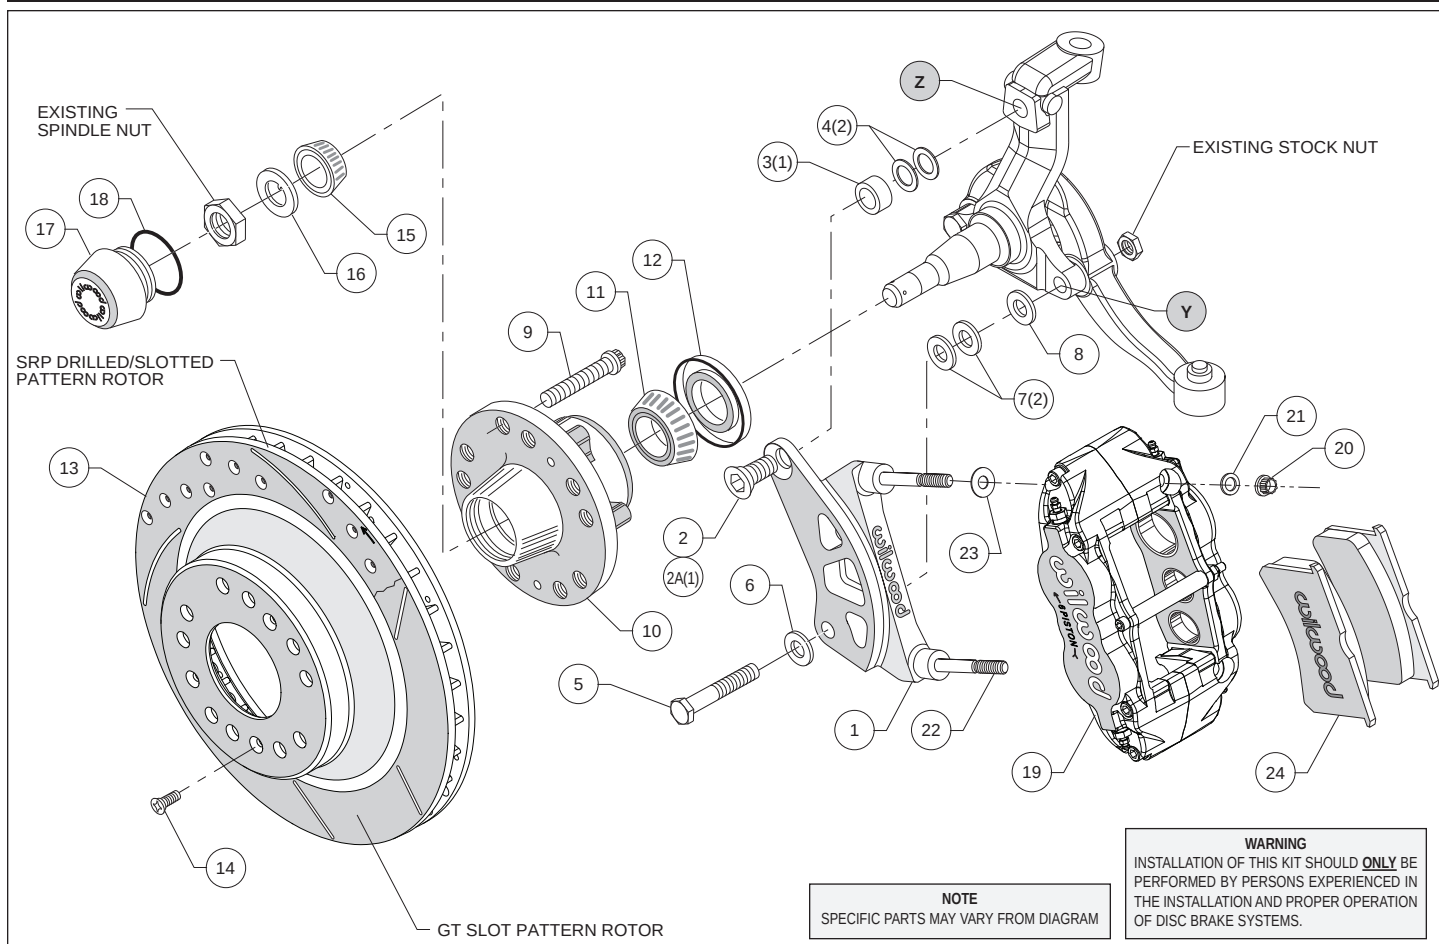
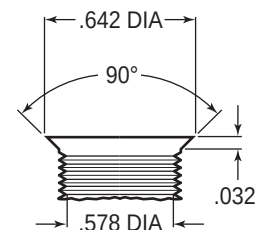

Figure 1. Typical Installation Configuration
Figure 3. Drill and Tap Detail
Assembly Instructions (numbers in parenthesis refer to the parts list on the preceding page, and Figure 1):
•**NOTE:** 1964-66 spindles may require the following modifications (reference figure 1 and 3): Top anchor pin hole (Z) must be drilled and tapped to the dimensions as outlined in Figure 3. Bottom rear steering arm bolt hole (Y) in the spindle and steering arm must be enlarged to .50" by drilling. A 1/2-20 backing nut (not supplied in kit) will need to be acquired to torque bracket / steering arm bolt (supplied in kit).
•**Disc Application:** The caliper mount bracket (1) should be installed first with clean, dry threads on the mounting bolts. Orient the bracket as shown in Figure 1, and install using bottom bolt (5), washer (6), and washer (7, Heidts spindle kit only). Install the upper bolt (2A), spacer (3) and washer (4, Heidts spindle kit only), finger tighten only. **NOTE:** The bracket must fit squarely against the mount bosses on the upright. Inspect for interference from casting irregularities, machining ridges, burrs, etc. If needed to align the bracket parallel to the spindle, add shim washer (8) between bracket and spindle as shown in Figure 1. Once the bracket alignment is correct, remove the mounting bolts one at a time and apply red *Loctite*® 271 to the threads, and torque bolt (2A) to 140 ft-lbs and bolt (5) to 77 ft-lb.
•**Drum Application:** The caliper mount bracket assembly (1) should be installed first with clean, dry threads on the mounting bolts. Orient bracket as shown in Figure 1, and install using the bottom bolt (5), washer (6), and washer (8). Install the upper bolt (2), finger tighten only. **NOTE:** The bracket must fit squarely against the mount bosses on the upright. Inspect for interference from casting irregularities, machining ridges, burrs, etc. Once the bracket alignment is correct, remove the mounting bolts one at a time and apply red *Loctite*® 271 to the threads, and torque bolt (2) to 140 ft-lbs and bolt (5) to 77 ft-lb.
•Install wheel studs (9) into the hub (10), Photo 1. Torque to 77 ft-lb. **NOTE:** There are two five lug patterns in the hub (5 x 4.50 and 5 x 4.75). Ensure the correct hub stud pattern is being used to fit the wheel application.
•Pack the large inner bearing cone (11) with high temperature disc brake bearing grease (available from your local auto parts store) and install into the backside of the hub (10), Photo 2.
•Install the grease seal (12) by pressing into the backside of the hub (10), flush with the end of the hub, Photo 2.
- NOTE:** This kit contains distinct right and left hand calipers that must be mounted in a specific direction, as described below. Lubricate the caliper mounting studs (22) with lightweight oil. Initially place one .035" thick shim (23) on each stud between the caliper and the bracket, as shown in Figure 1 and Photo 5. Mount the caliper (19) onto the bracket (1) using lock nuts (20) and washers (21), Figure 1. Ensure that the caliper is mounted so the largest pistons are at the rotor exit end of the caliper, in relation to the direction of rotor rotation. Temporarily tighten the lock nuts.